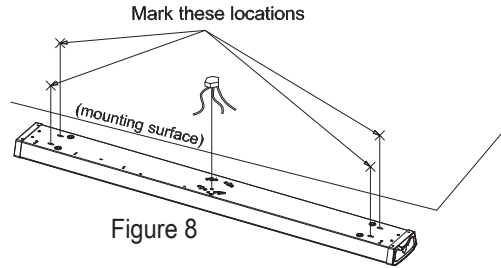

Figure 8
2. Align knockout hole with the supply wire location on the mounting location with one hand while marking the location of the four keyhole slots at each end of the housing. (Figure 8)